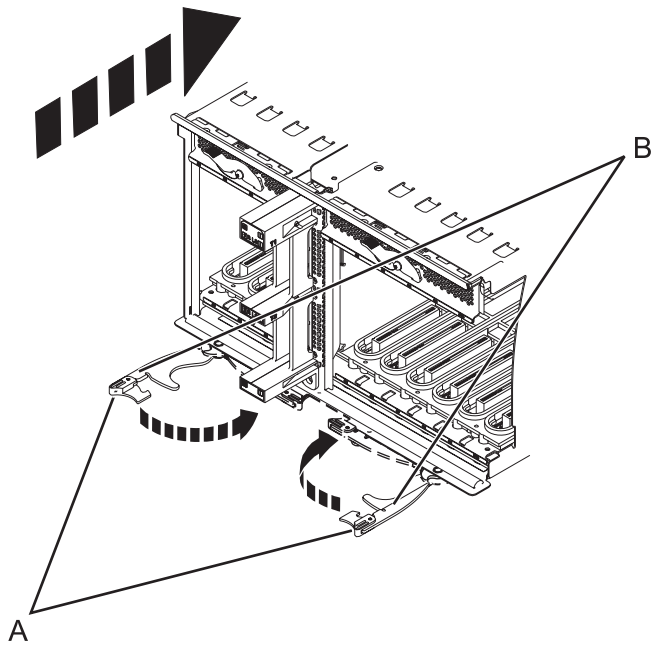

Figure 59. Install the I/O system board on a rack-mounted model
- Insert the I/O system board firmly into the server, as shown in Figure 59 on page 77.
- Secure the I/O system board with the locking tabs (A), as shown in Figure 59 on page 77.